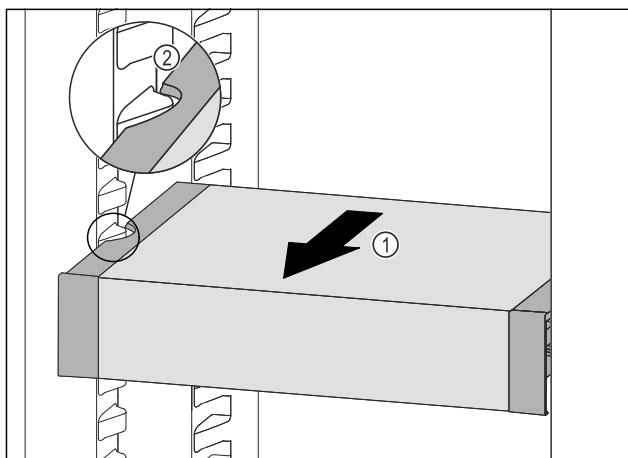

Fig. 136
- ▶ Pull VarioSafe forward Fig. 136 (1) until the recesses in the side of the VarioSafe are at the level of the support rib in the refrigerator compartment. Fig. 136 (2)